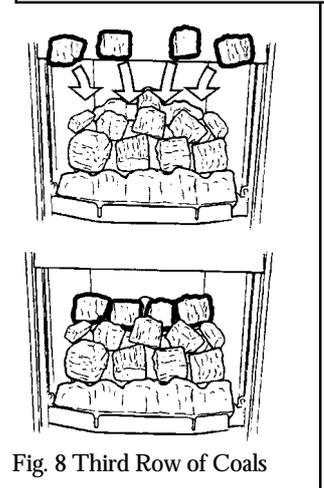

Fig. 8 Third Row of Coals
3.3 Place the four remaining coals in a row at the back of the firebox compartment. See figure 8.